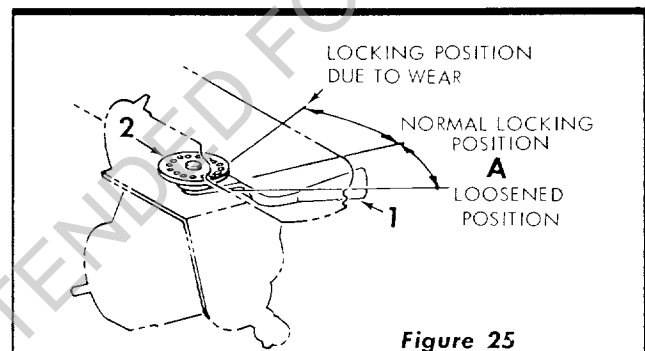
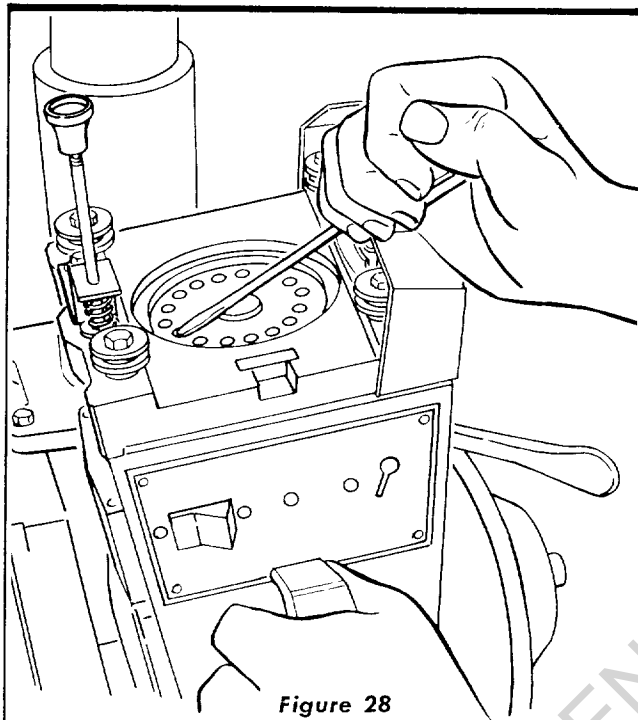

Figure 25
Figure 28
These are controlled by the swivel latch pin knob (2, figure 25) and the yoke clamp handle (4). The swivel latch pin knob automatically indexes the yoke at each 90° position. Lift the knob to release. The yoke clamp handle (4) locks the yoke to the carriage in any position. Pull the handle to release. Push it to tighten.
The normal locking position of the yoke clamp handle (1), figure 25) is approximately midway between the two sides of the yoke.
2. Set yoke clamp handle to Position "A", (figure 25), which is just slightly ahead of the mid-position of handle.
- Using a screwdriver or similar tool, rotate the yoke clamp assembly (2, figure 25) clockwise (when looking down) until the next hole will line up with the lock screw (See figure 28). Usually, rotating the yoke clamp assembly one hole will correct this adjustment. However, in some cases it may be necessary to rotate it two holes.